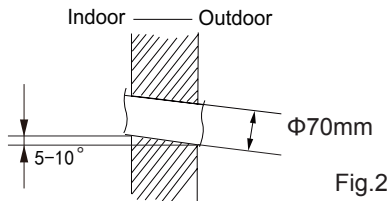

Fig.2
(2) Open a piping hole with the diameter of 70mm on the selected outlet pipe position. In order to drain smoothly, slant the piping hole on the wall slightly downward to the outdoor side with the gradient of 5-10°. (As show in Fig.2)